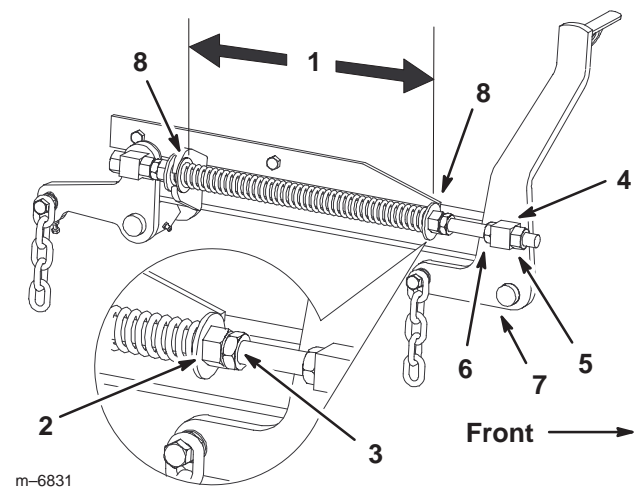

Figure 73
7. Loosen the front swivel jam nuts, at the front of the right and left swivels, approximately a 1/2 inch (13 mm) (Fig. 73).
8. Adjust the lift nuts on both the left and the right side of the machine to achieve **1/4 to 3/8 inch (6 to 10 mm) lower in front at A than in the rear at B** (Fig. 73).
2. Check the distance between the two large washers, it needs to be 10-1/2 inches (26.7 cm) (Fig. 73).
3. Adjust this distance, by loosening the spring jam nut and turning the nut in front of each spring (Fig. 73). Turning the nut clockwise will shorten the spring; counter-clockwise will lengthen the spring.
4. Lock the nut into position by tightening the spring jam nut (Fig. 73).